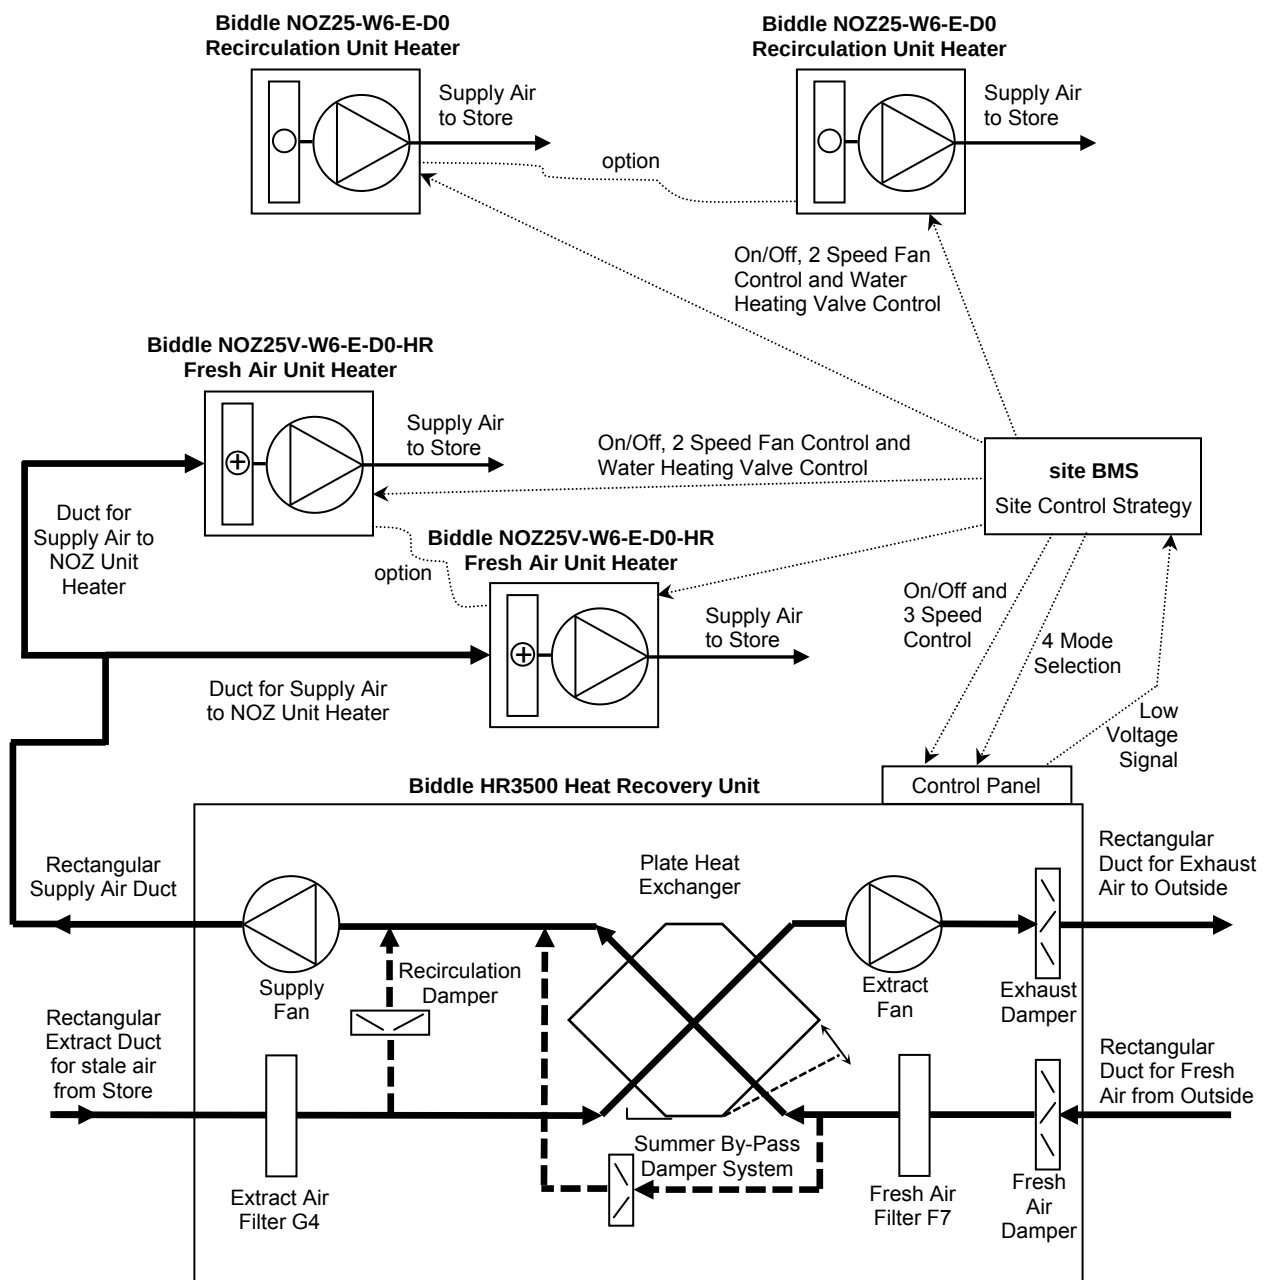

Figure 1
1. Biddle NOZ25V-W6-E-D0-HR Unit Heaters in stores where Biddle NOZ unit heaters are used for heating the store. See Figure 1.